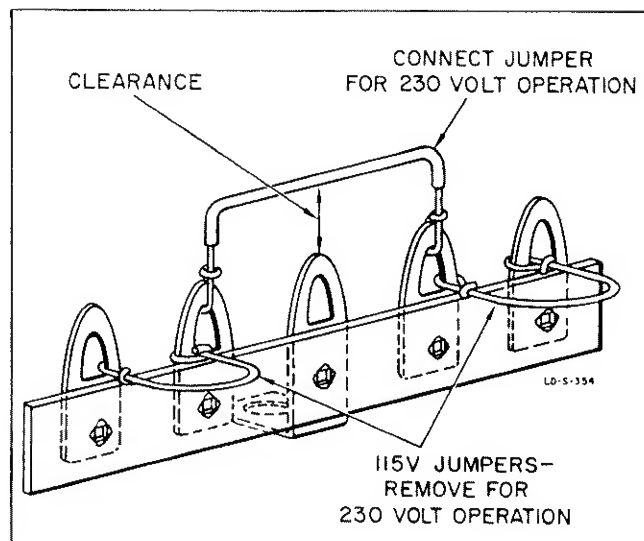

Figure 4-1. 230-Volt Operation
The following describes circuit modifications necessary to change the 202C power transformer primary from 115-volt operation to 230-volt operation. Figure 4-1 further illustrates this procedure.
- 2) Remove the two bare wire jumpers from the terminal strip as indicated in figure 4-1.